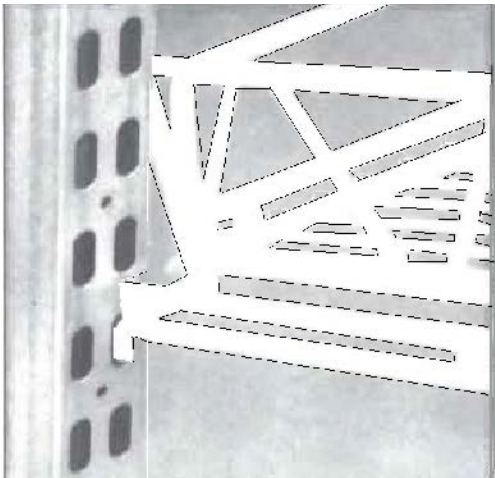
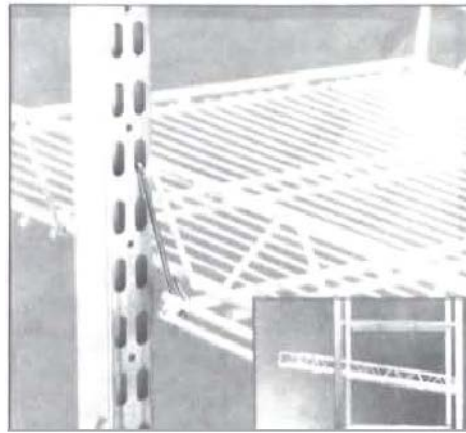

Figure 1
Figure 2
1. Install front prongs of the can or bottle dispenser shelf in front post slots with the shelf's back end titled up at an angle. Refer to Figure 1 and Figure 2.